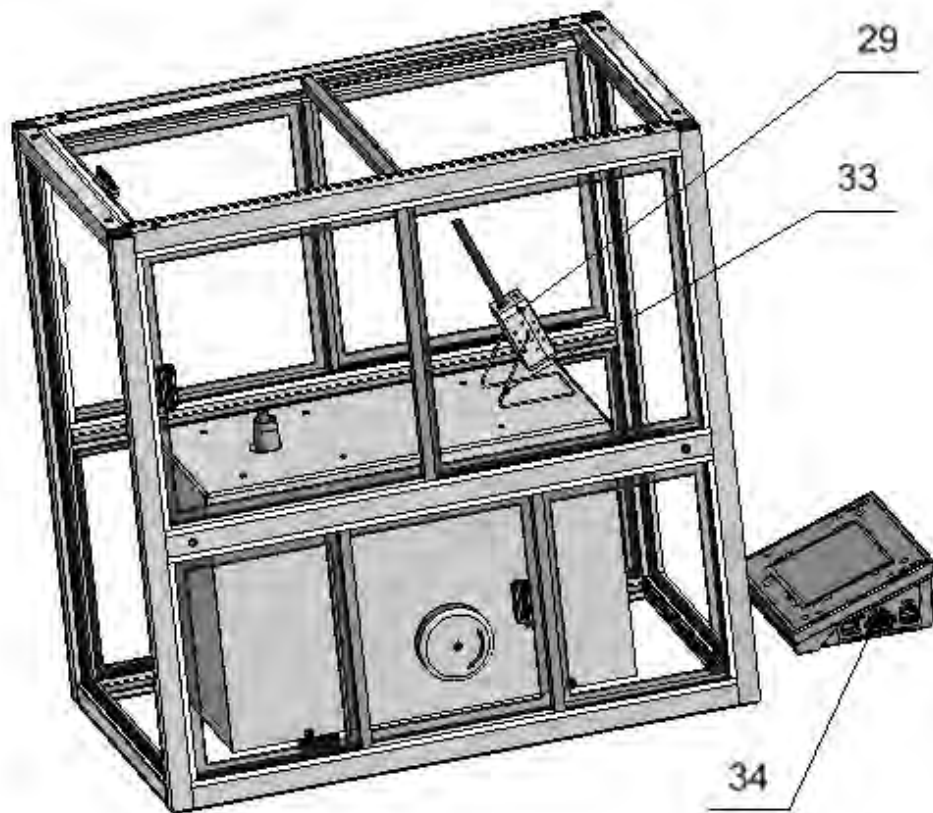

Fig. 10
26.2. Alternatively bend out arms of a sensor holder (33), place them in humidity sensor (29) openings, next place the sensor on a housing of the comparator. (Fig. 10)
27. Alternatively, connect the humidity sensor to a controlling device (34). (Fig. 10)